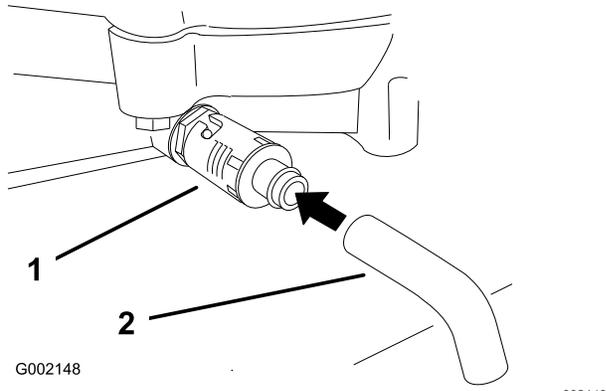

Figure 21
4. Place a pan below the drain. Rotate the oil-drain valve to allow the oil to drain (Figure 21).